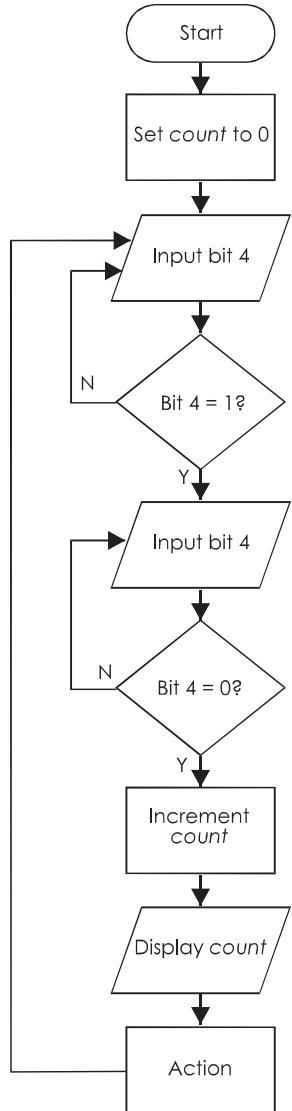

FIGURE 38.12 Counting events requires two checks on the input level.
**10** **Counting events**, such as the number of packages passing by on a conveyor belt, are programmed in the flow chart shown in Figure 38.12. This flowchart illustrates two important principles. The first is that all stored values must be **initialised** at the beginning of a program. It is not sufficient to assume that a given bit will be '0' to begin with. It might have been set to '1' by a previously run program. Here, the first thing is to set the counter value to zero.